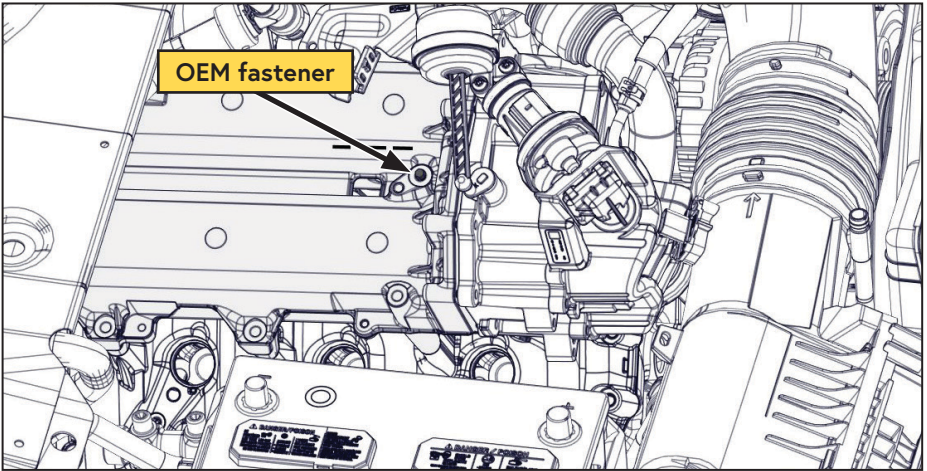

Figure 18 — Install oil fill bracket
- ☐ Position the oil fill bracket over the hole and align the smaller hole with the nearby OEM bolt head (Figure 18).
- ☐ Secure the bracket using the supplied M8 fastener, ensuring there are no wires or harnesses pinched under the bracket (Figure 18).